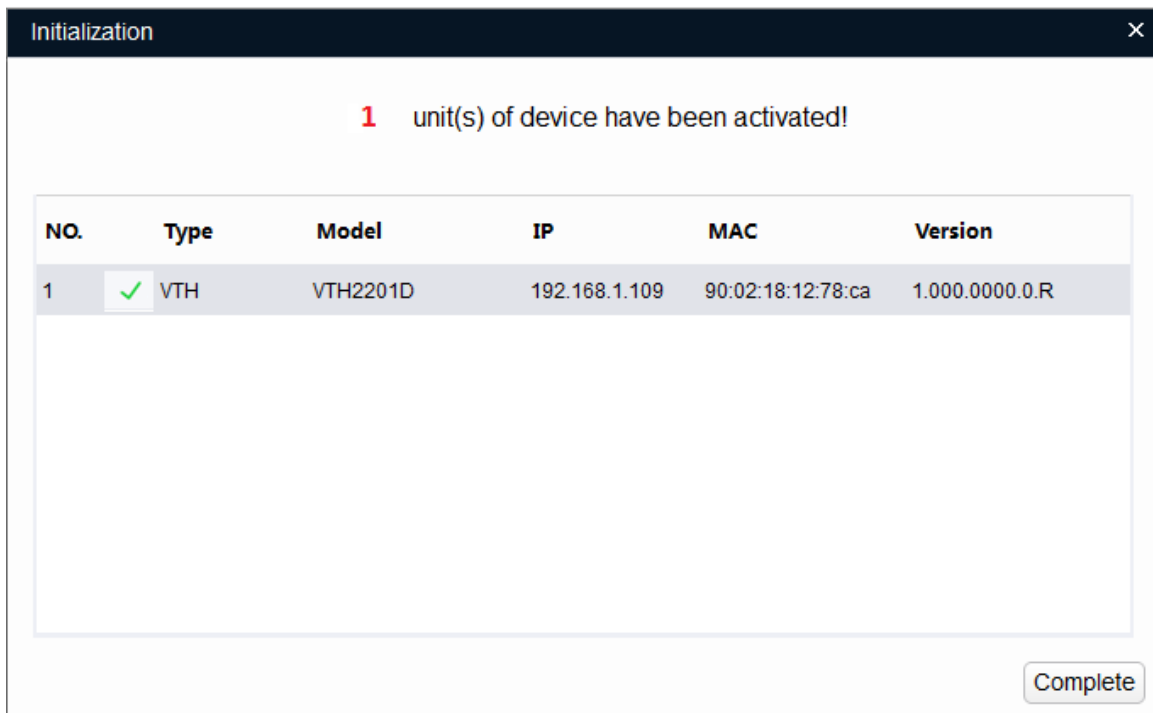

Figure 3-17
6. Use the default settings; click “OK” to start initialization. On completion, the system displays Figure 3-17.